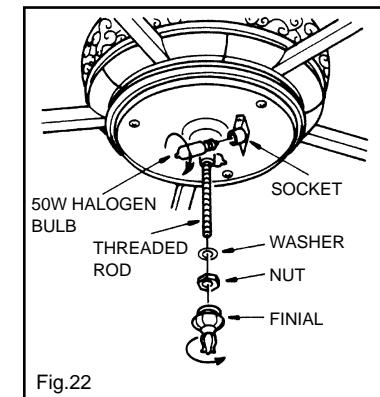

Fig.22
**Step 3.** Install the 2-50w Mini-Can halogen bulbs (included). (Fig. 22)
**Step 4.** Remove the finial, nut and washer from the threaded rod. (Fig. 22)